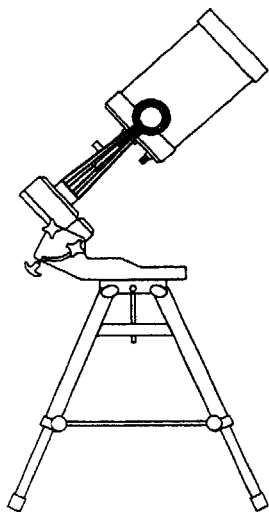

Figure 8-6
2. Release the DEC clamp and move the telescope so that the optical tube is parallel to the fork tines (i.e., polar axis). When this is done the declination setting circle will read $+90^\circ$. If the declination setting circle is not aligned, move the telescope so that the tube is parallel to the fork tines (see figure 8-6). (If the DEC circle is not aligned, please see the instructions on "Aligning the Declination Setting Circle.")